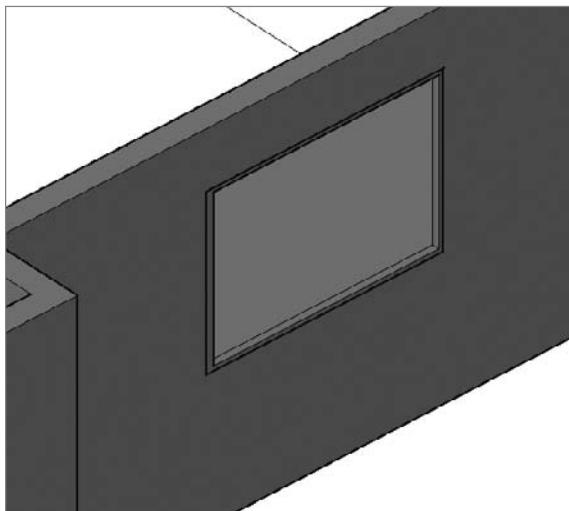

FIGURE 16.42 The new window moved into the opening
9. Finally, you need to move the new window into the opening. Turn on the running object snaps; then select the frame and glazing. Use the Endpoint osnap to pick the lower-left front corner of the frame as the first move point and the lower-left front corner of the opening as the second point. The window is moved into place, as shown in Figure 16.42.